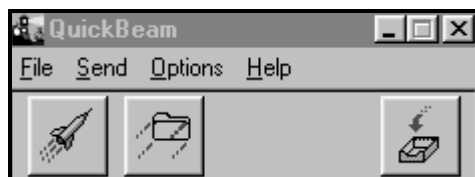

Figure 99: The QuickBeam Window
- Click on the desired file, and drag it onto the rocket button in the QuickBeam window, as shown in Figure 99 below.